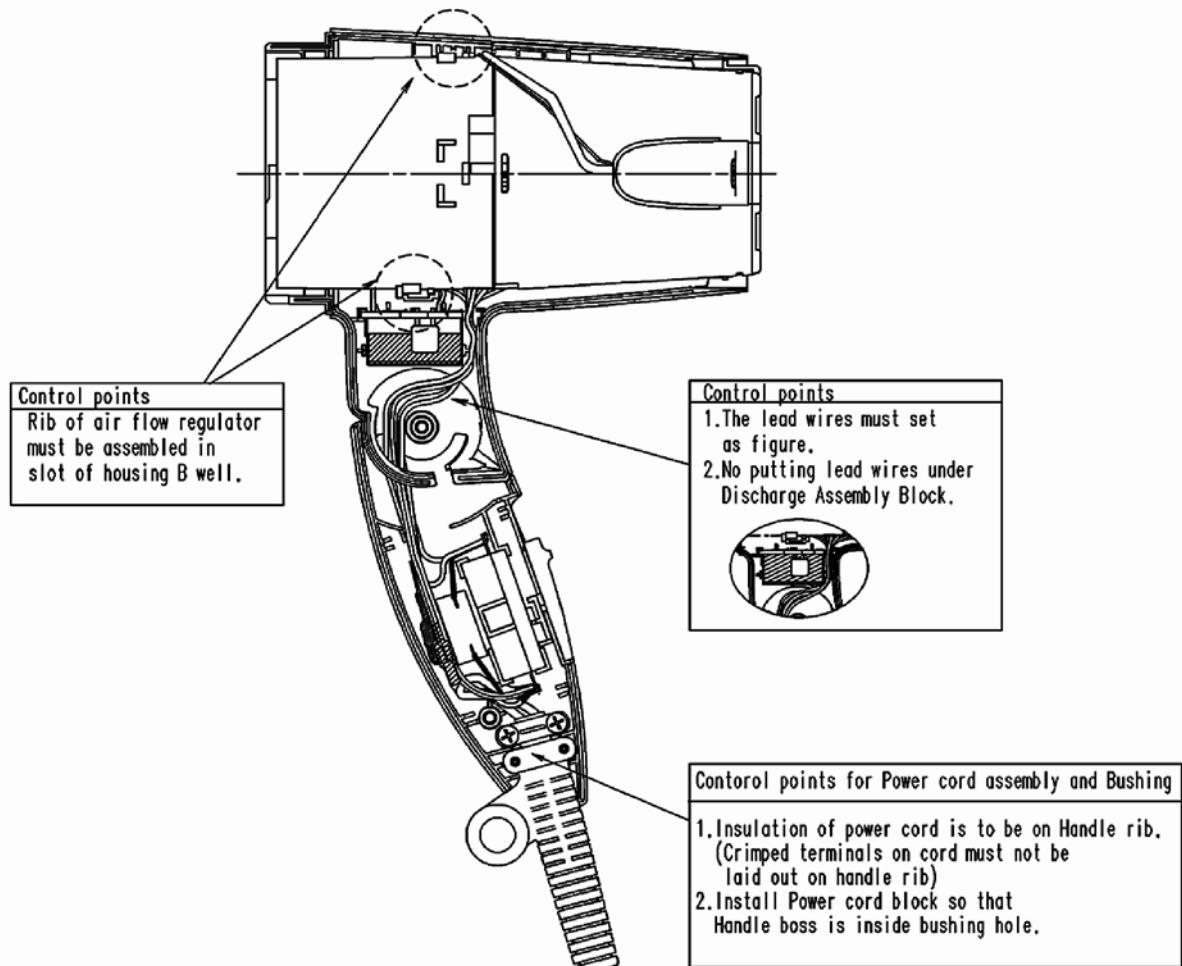

Figure 14
4. Assemble motor heater block with handle B and housing B as figure 14.